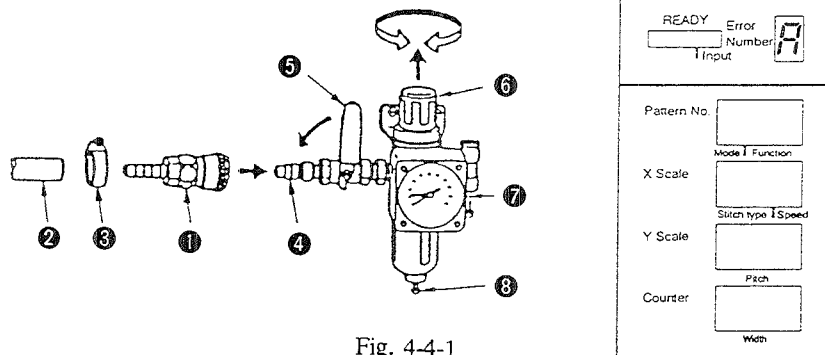
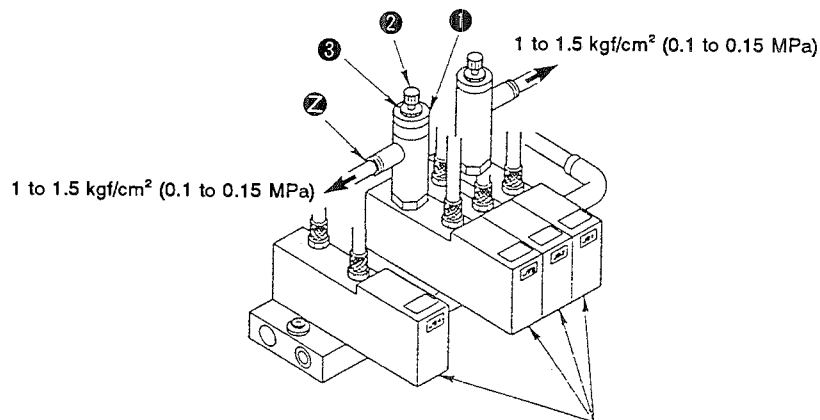
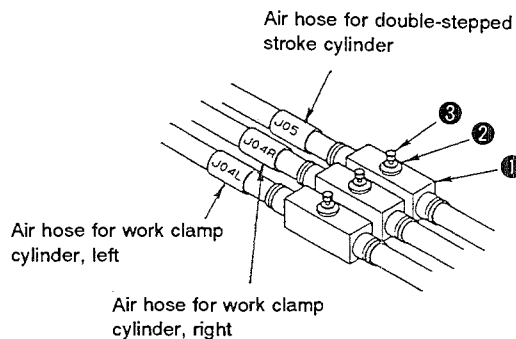
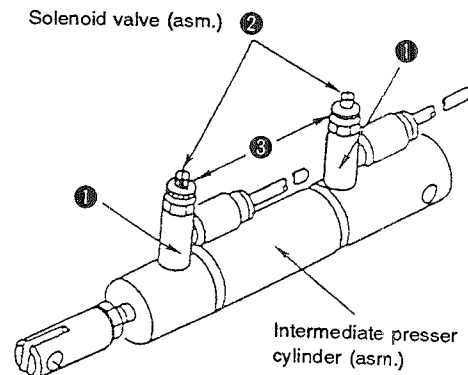

Fig. 4-4-1
Fig. 4-4-2
Fig. 4-4-3
Fig. 4-4-4
- 1) Connect quick-coupling joint ① in place and open air cock ⑤. Then pressure gauge ⑦ indicates 5 to 5.5 kgf/cm² (0.5 MPa to 0.55 MPa). (Fig. 4-4-1)
- 2) If pressure gauge ⑦ indicates 4 kgf/cm² (0.4 MPa) or lower value, the machine will stop with Error **A** shown on the operation box panel. (Fig. 4-4-1)
- 3) The air pressure on the feeding frame cylinder retracting ride has been reduced to 1 to 1.5 kgf/cm² (0.1 MPa to 0.15 MPa) and the feeding frame can be lowered by hand. (Fig. 4-4-2)
- 4) The needle knob of the speed controller (for work clamp cylinder) has been fixed at the position that is reached by loosening the knob by one turn after fully tightening it. (Fig. 4-4-3)
- 5) The needle knob of the speed controller (intermediate presser cylinder (asm.)) is fixed using a nut with loosened by 5 turns after it has been fully tightened. (Fig. 4-4-4)
<ol style="list-style-type: none"> 1) Connect air supply hose to quick-coupling joint (female) ❶ and fasten the hose with hose band ❸. 2) Connect female side ❶ and male side ❷ of the quick-coupling joint. 3) Open air cock ❹. Pull up air adjusting knob ❺, then turn it until pressure gauge ❻ indicates 5 to 5.5 kgf/cm² (0.5 MPa to 0.55 MPa). Then push down the knob to fix it at that position. 4) If the air pressure is lower than the specified value, the machine will stop while giving error A on the display. <ul style="list-style-type: none"> * Close air cock ❹ and press pushbutton ❸, and the air pressure will be 0 kgf/cm². 5) Set the machine in its sewing state. Now remove the air hose by pressing section ❷ of pressure reducing valve ❶ which is fixed on the solenoid valve (asm.), and connect a commercially available pressure gauge instead of the removed air hose. (Fig. 4-4-2) Depress the feeding frame switch 5 times or more, and turn needle knob ❷ of pressure reducing valve ❶ until the connected pressure gauge indicates 1 to 1.5 kgf/cm² (0.1 MPa to 0.15 MPa). Then fix the needle knob using nut ❸, and remove the pressure gauge. Now, securely connect the removed air hose in place. (Fig. 4-4-2) 6) Referring to the Standard adjustment (4)-4), properly adjust needle knob ❷ of speed controller ❶ and fix the knob with nut ❸. (Fig. 4-4-3) 7) Remove the top cover Referring to the Standard adjustment (4)-5), properly adjust needle knob ❷ of speed controller ❶ and fix the knob with nut ❸. (Fig. 4-4-4) 	<ol style="list-style-type: none"> 1) Function failure of the feeding frame components and intermediate presser components may result. The machine stops with Error A indicated on the operation panel. 2) An adequate work pressing pressure is not provided. 3) The speed of vertical motion of the feeding frame may be too high or too low. 4) The intermediate presser may fail to move smoothly, or it may generate a keen metallic noise when it is in operation. <p>[Caution] Normally, Standard adjustments (4)-2) through -5) are not required to be adjusted. Needle knobs and nuts referred in steps 3) through 5), in particular, have applied with oil-resistant white coating material to show that they have been already adjusted properly.</p> <ul style="list-style-type: none"> * To set the air pressure to 0 kgf/cm², close air cock ❹ and press button ❸. (See Fig. 4-4-1)